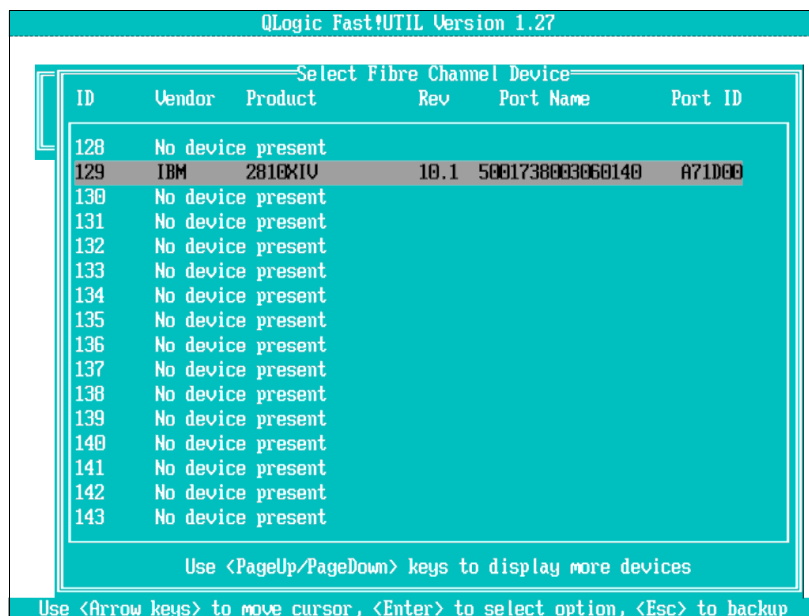

Figure 1-14 Select Fibre Channel Device menu
9. The Select Fibre Channel Device menu opens (see Figure 1-14). Select the **IBM 2810XIV** device, and press Enter.